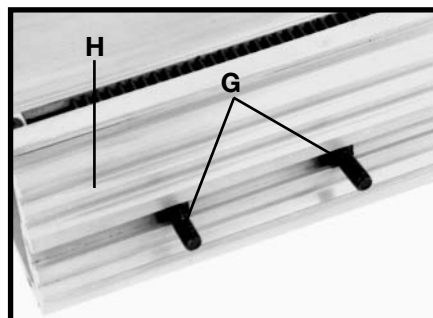

Fig. 23
1. Slide two T-bolts (G) Fig. 23 into channel located at the rear of duplicator guide rail (H).